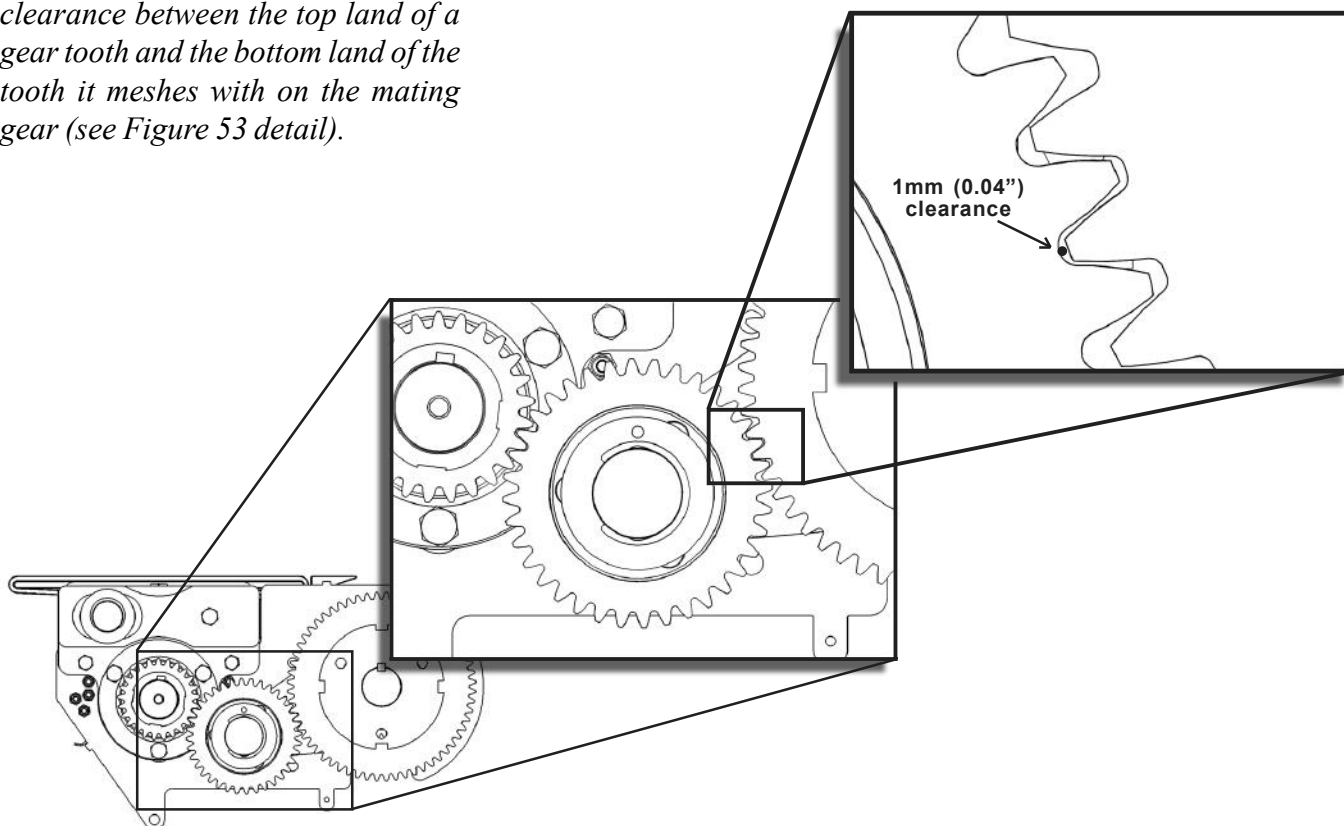

Figure 53: Detail of MicroSpan Transfer drive gear assembly
*There should be 1mm (0.04") clearance between the top land of a gear tooth and the bottom land of the tooth it meshes with on the mating gear (see Figure 53 detail).*